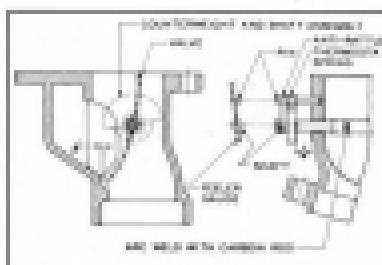

Fig. 204. Manifold Heat Control Valve
1. With an arbor press and using tool J-979 as shown in Fig. 204 press the drive gear from upper end of pump shaft. Remove Woodruff key from upper end of shaft.
An anti-rattle spring is attached to the heater valve shaft, preventing heater valve noise during the engine warm-up. The spring should be adjusted so that it reaches the stop before the heater valve contacts the exhaust manifold when valve is in closed position. (See Fig. 204)
It is extremely important that the thermostatically controlled manifold valve is properly positioned on the shaft. With the valve in the closed position, the slot in the rear end of the manifold valve shaft should be 90 degrees to the left (against engine) of straight up and down. The valve is in this position when gauge (feeler stock) laying in slot in end of shaft contacts stop pin. (See Fig. 204). To assure proper position of valve:
4. With counterweight toward up and gauge laying in shaft slot and touching stop pin, valve in closed position within W° , see word valve in shaft. (See Fig. 204)